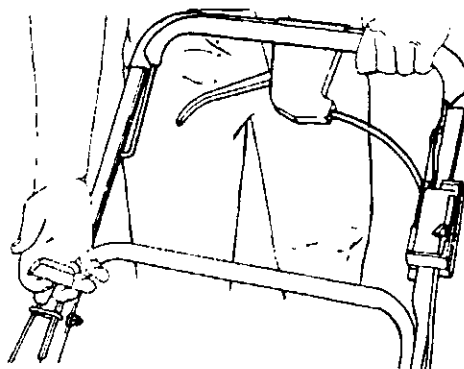

FIGURE 20.
2. Standing behind the unit, depress the blade control handle and hold it against the upper handle as shown. See figure 20.